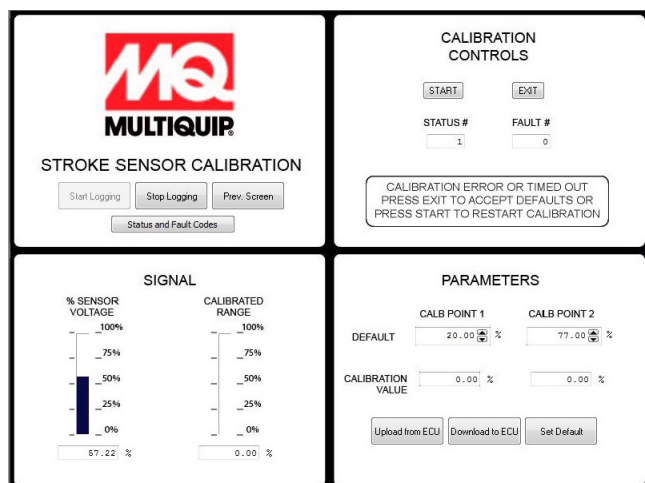

Figure 36. Start Stroke Sensor Calibration
- b. Read % Sensor Voltage (Figure 36).